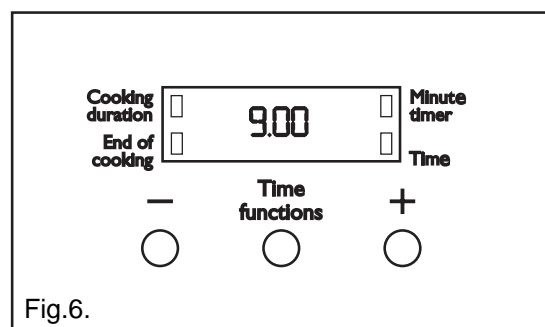

Fig.6.
- 1) Ensure the electricity supply is switched ON and that the correct time of day is displayed, e.g. 9.am. as Fig. 6.